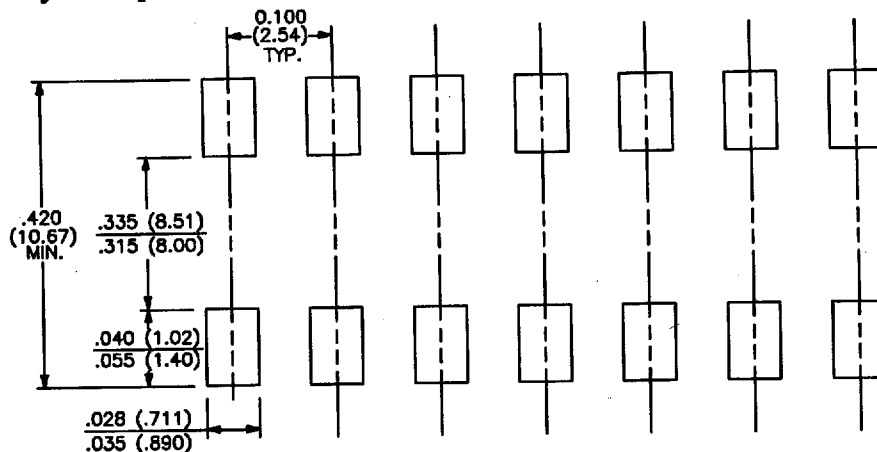

FIGURE 26: Recommended solder pad footprint, 14-pin Gull Wing configuration.
- Figure 26 represents the 14-pin GULL WING solder pad we recommend and is basically the equivalent of the industry standard SO-28 footprint utilizing every other pad (i.e. lead centers are .100" instead of .050").